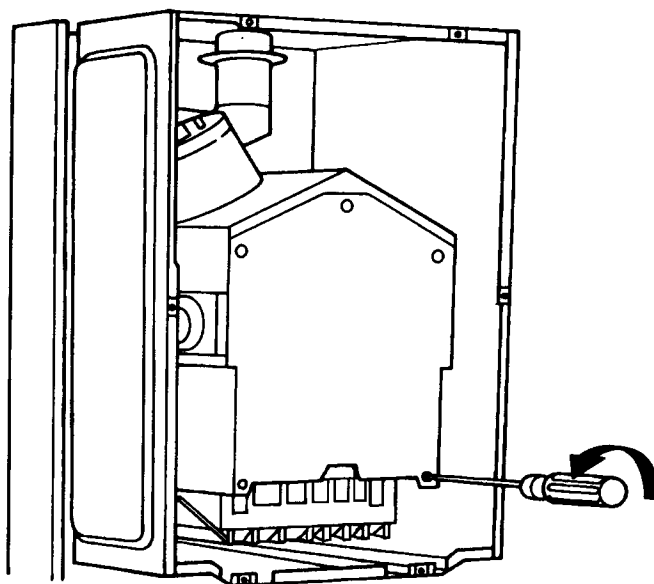

Fig. 25
Refer to Figs. 25, 26 & 27
- 8.6.3 Remove front of combustion chamber by releasing five screws (fig. 25).